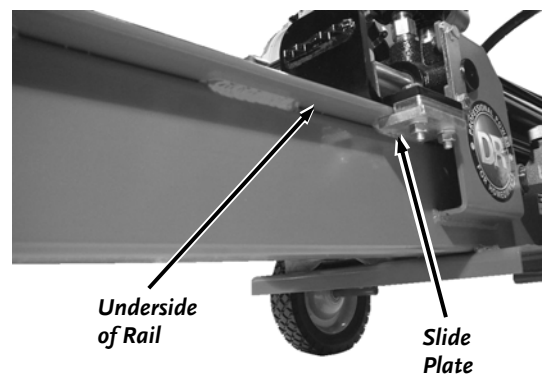

Figure 15
5. Lubricate the underside of the rail with grease (**Figure 15**). This will help to prevent wear between the Slide Plates and the Rail.